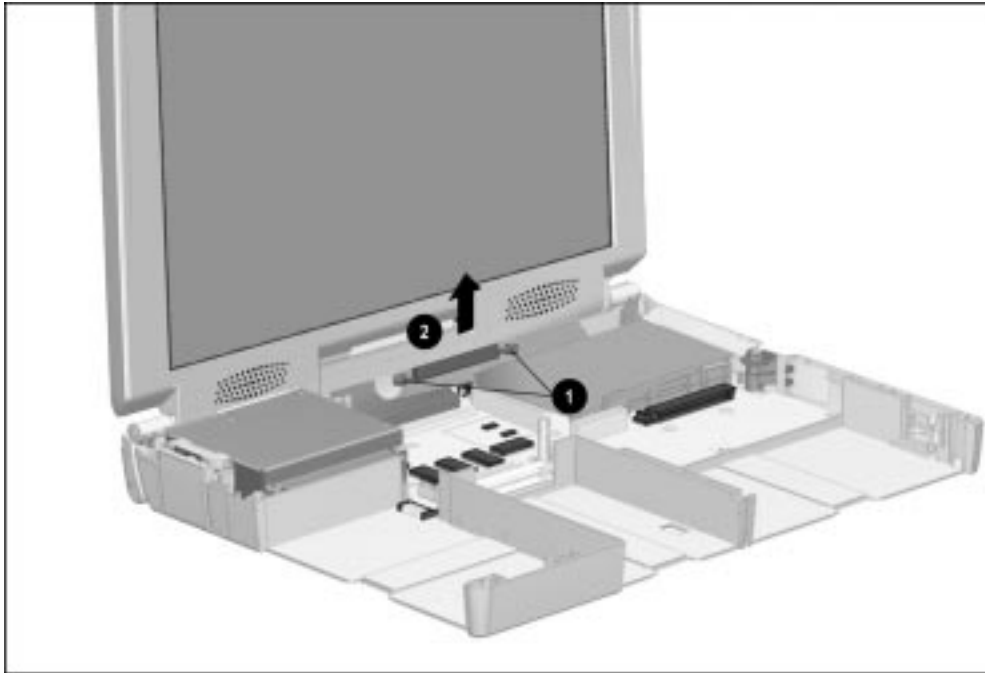

Figure 5-48. *Disconnecting the Display Video Cable*
10. Grasp the tabs on the display video connector ❶ and disconnect the connector from the system board ❷ (Figure 5-48).